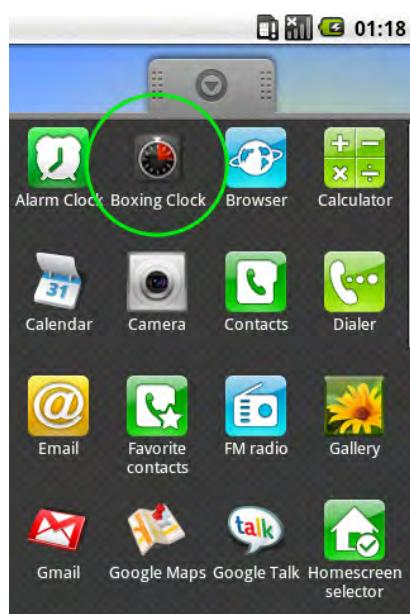

Figure 6-29. Boxing Clock icon in the Android app menu
3. Optionally, copy the program icon (`icon.png`) of three different sizes into `res/drawable-ldpi/`, `res/drawable-mdpi/`, and `res/drawable-hdpi/`, overwriting the files that are already in there. This will give you an attractive icon, as shown in Figure 6-29.